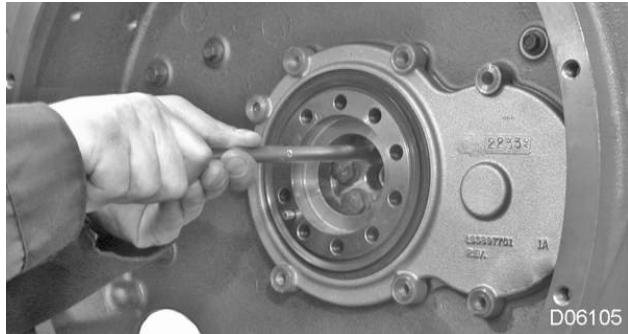

Figure 6 Use Heel Bar to Loosen Secondary Flange Gear
6. Use a heel bar to loosen the secondary flange (Figure 6). NOTE: A gear puller may also be used.